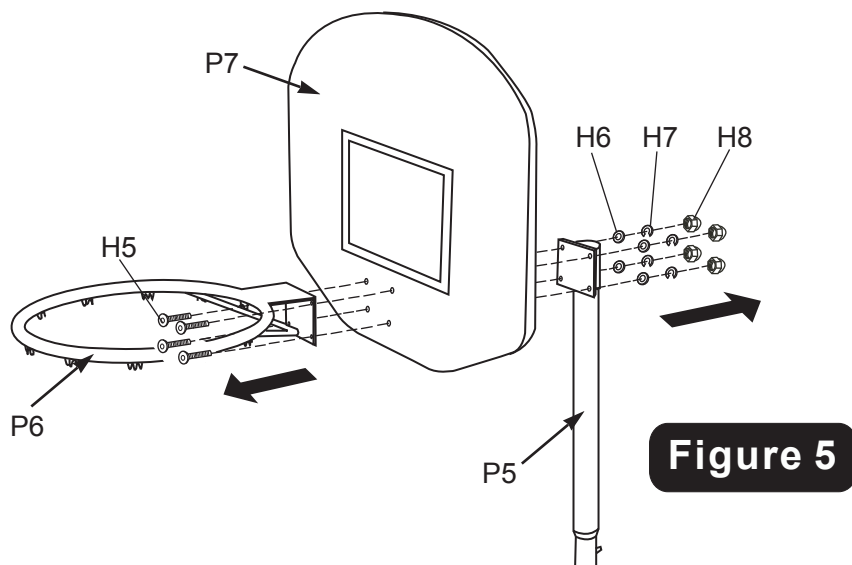

Figure 5
1. With the help of another adult, remove Allen Head Bolts **H5**, Flat Washers **H6**, Spring Washers **H7** and Acorn Nuts **H8** from previous assembly **STEP 2** as shown in **FIGURE 5**.